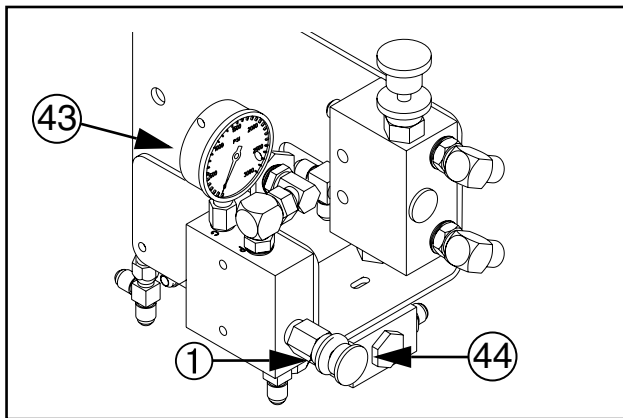

Figure 27
Refer to Figure 27
2. With the tractor hydraulic lever locked forward, release the lock disk ①, turn the knob on the pressure control valve (44) as shown in Figure 27. Watch the pressure gauge (43) and dial in the desired pressure on the openers. Clockwise increases the pressure and counterclockwise decreases pressure. Once the pressure is set, lock the knob with the lock disk ①.